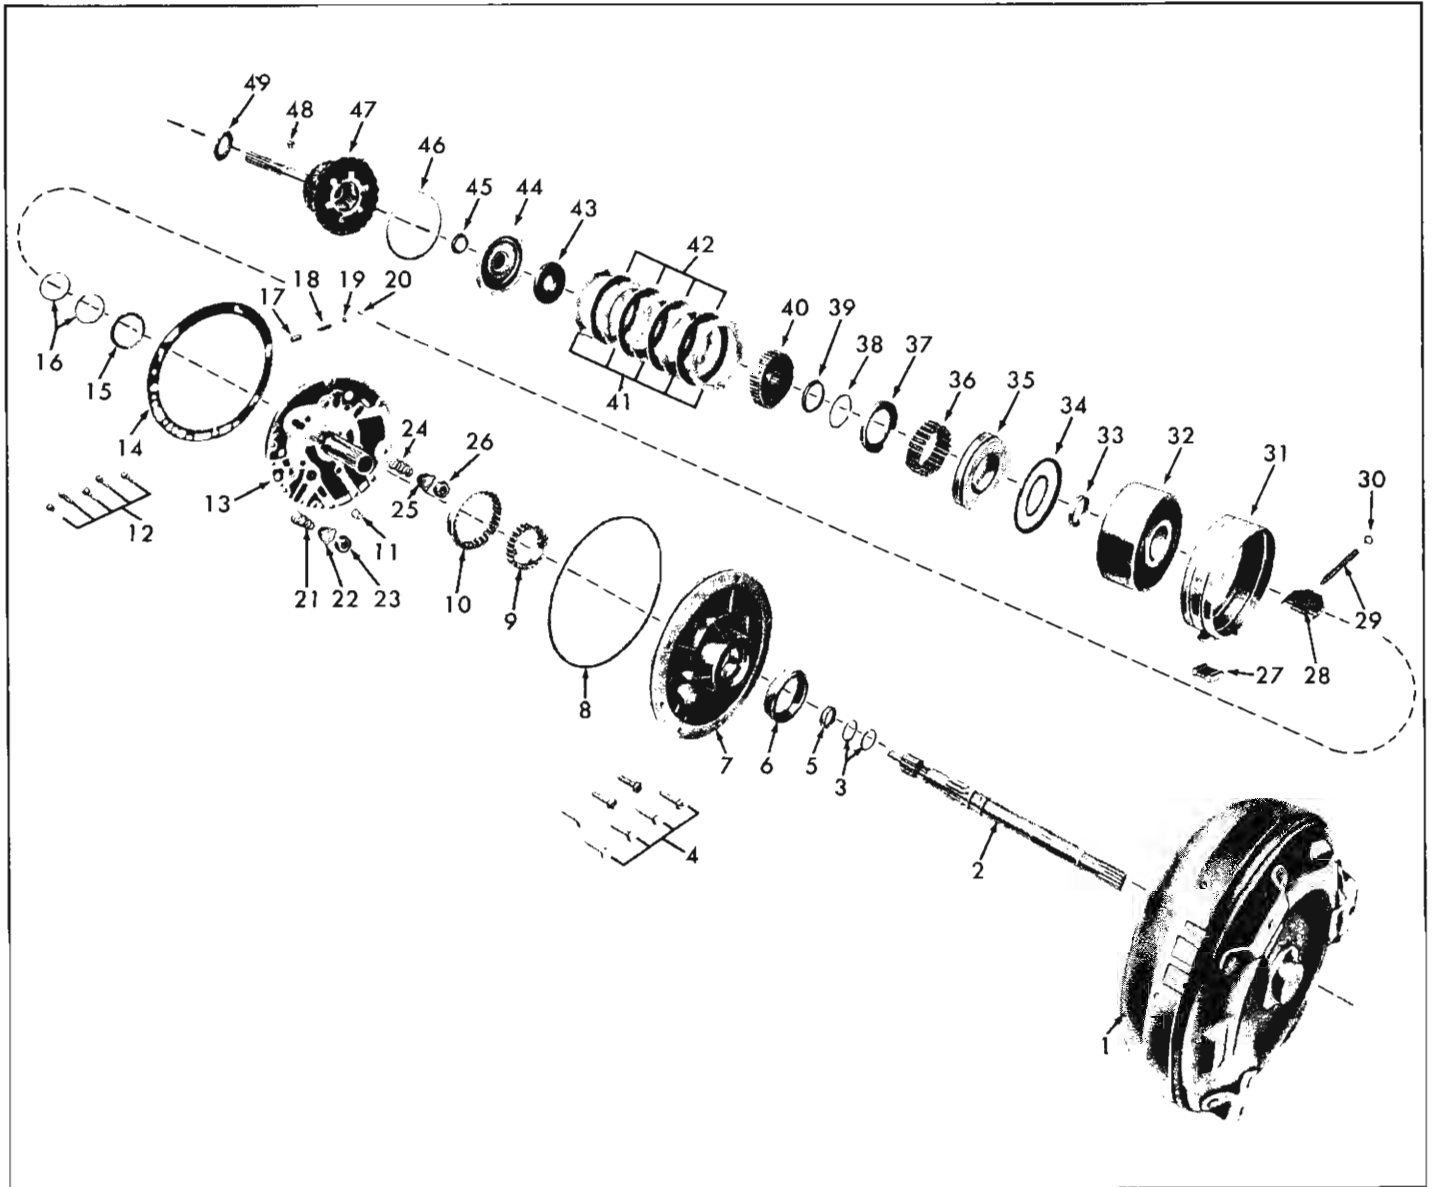

Fig. 19—Internal Mechanism - Exploded View
**NOTE:** See Figure 19 for a layout of pump parts.
**CAUTION:** When working with the clutch drum, use extreme care that the machined face on the front of the drum (fig. 19) not be scratched, scored, nicked or otherwise damaged during any of the following service operations. This machined face must be pro-